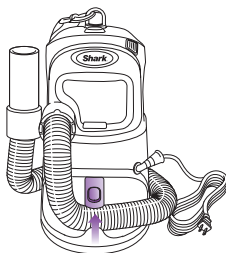

Fig. 18
- 2 Wrap the flexible hose around the base of the vacuum and hook the end of the flexible hose into the hose dock. (fig. 18) To release the hose, press the Hose Storage button.